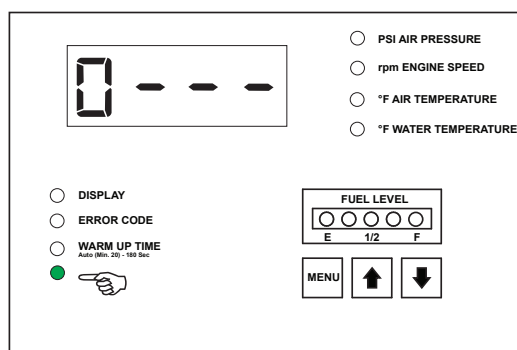

Figure 33. Pressure Adjustment
3. The 7-segment display will now read "0 -- --" and the **OTHER FUNCTIONS** LED will light up (Figure 33).